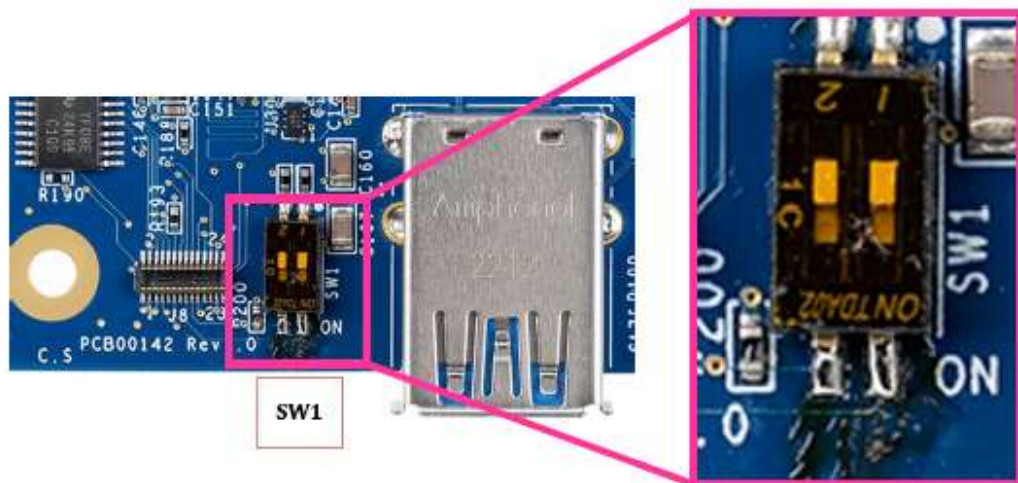

Figure 17. Hailo-15H SBC 2.x DIP SW 1
2. Confirm the SW1 DIP switches are set OFF as shown in Figure 17.